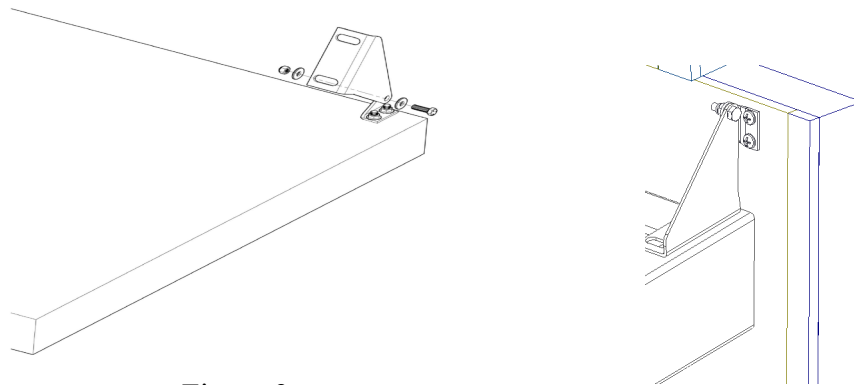

Figure 9
37. Attach the base pad to the unit using 1/4-20 hex bolts and nylon lock nuts to connect the hinge to the hinge bracket on the unit. Refer to figure 9.